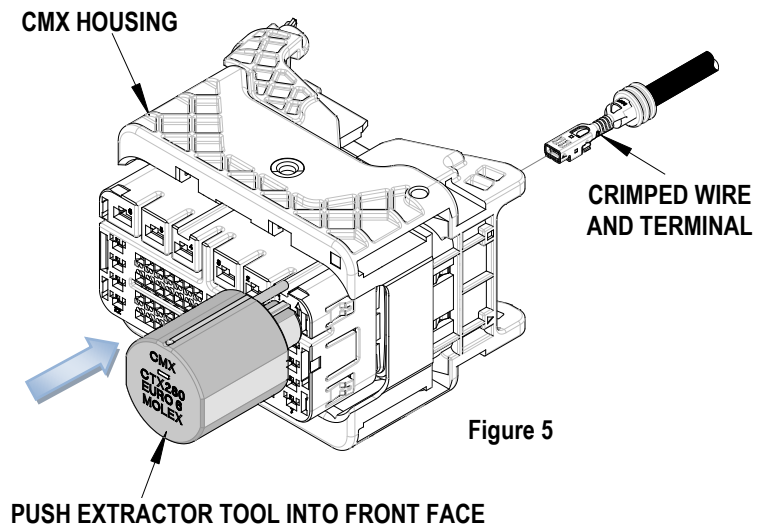

Figure 5
2. Push extractor tool into the desired “T” slot until it clicks or comes to a stop. Do not force the extractor tool any further or there can be damage to the housing. See Figure 5.